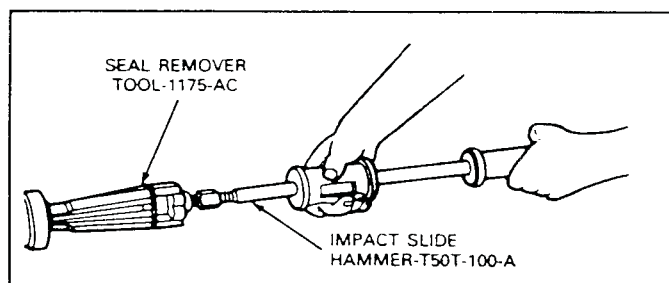
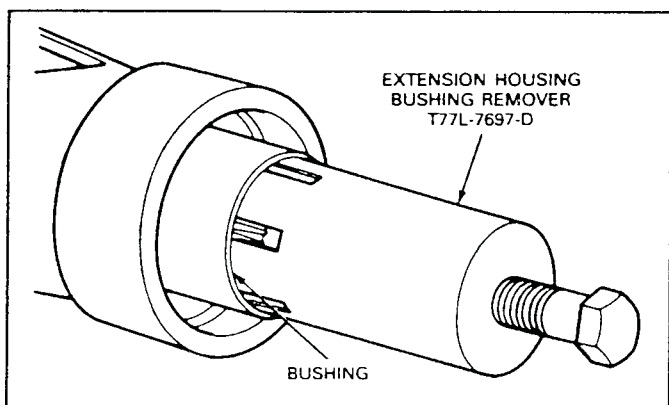

FIG. 11 Removing Extension Housing Seal
FIG. 12 Removing Extension Housing Bushing
2. When only the rear seal needs replacing, carefully remove it with a tapered chisel or the Tools, T50T-100-A and TOOL-1175-AC, shown in Fig. 11. Remove the bushing using Tool T77L-7697-D or equivalent as shown in Fig. 12. **Use the bushing**